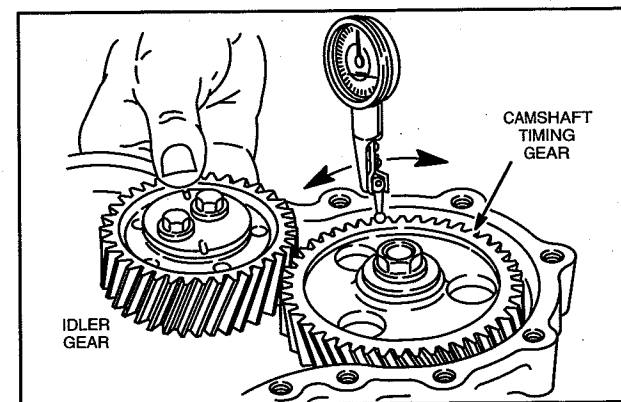

Fig. 8 - Checking Camshaft Timing Gear Backlash
3. Hold idler gear as shown and check gear backlash between camshaft timing gear and idler gear using dial indicator, Fig. 8.